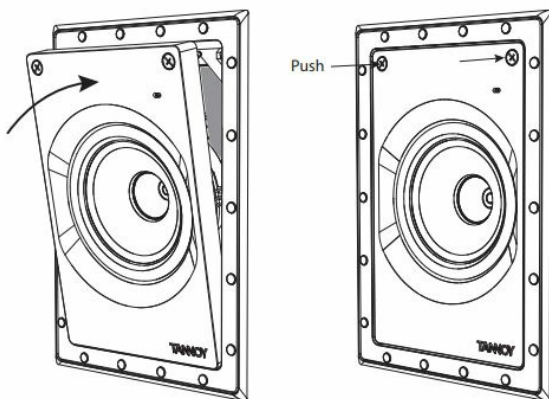

Fig. 13. Installing the Loudspeaker Assembly into the Frame
2. Hold the loudspeaker assembly at an angle and fit the two protruding tabs on its bottom edge, into the two corresponding slots in the frame (Fig. 13).